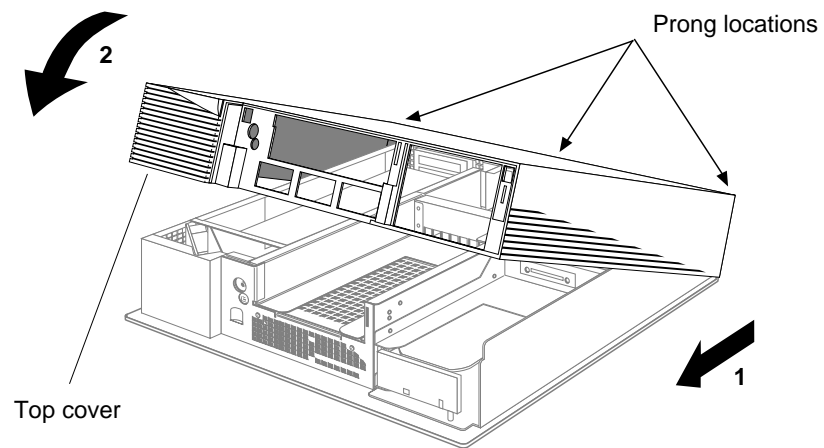

Figure 3-17 Replacing the Top Cover on the Indigo² Chassis
1. Place the prongs on the underside of the cover into the slots under the top ridge of the backplane of the chassis, as shown in Figure 3-17.